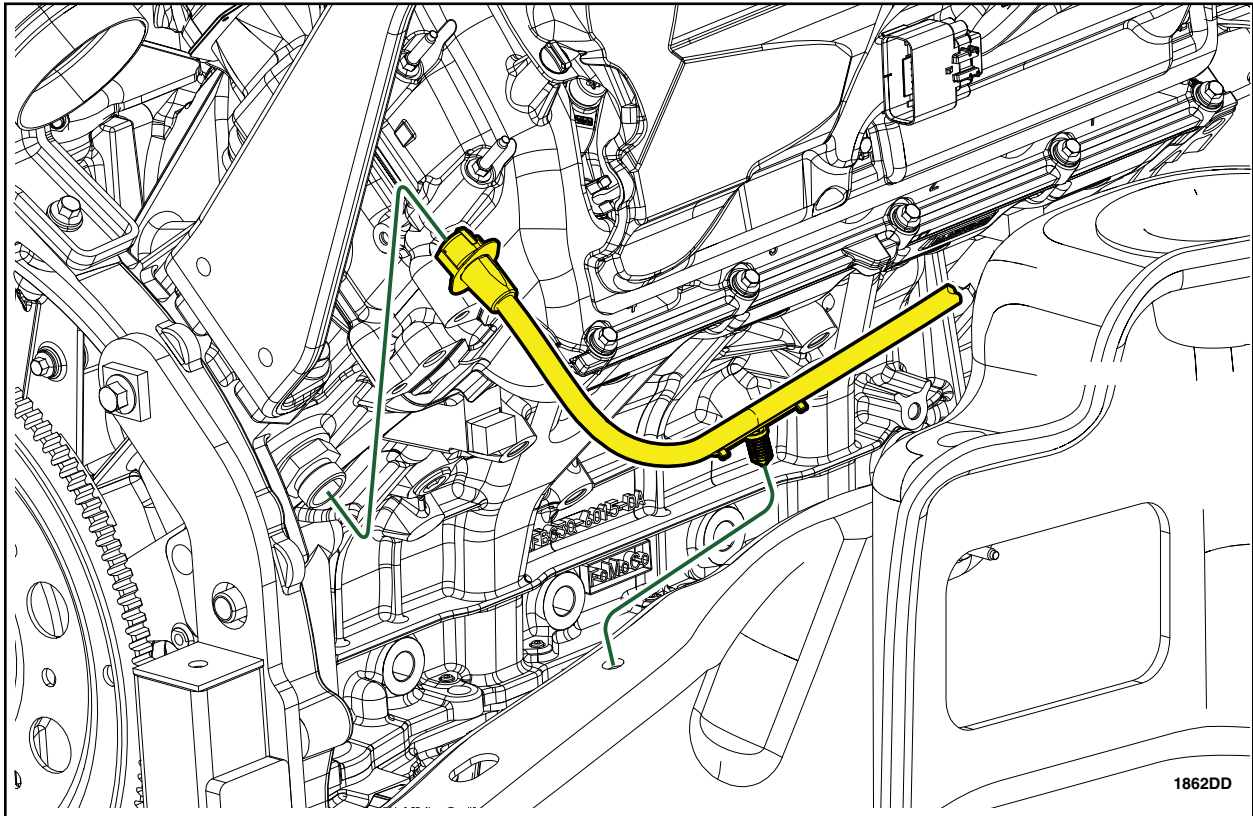

FIGURE 4a
5. Remove and discard the wire assembly. See Figures 4a, 4b and 4c.
8. Install the *new* wire assembly in the vehicle following the same routing as the wire assembly that is being replaced. See Figures 4a, 4b and 4c.